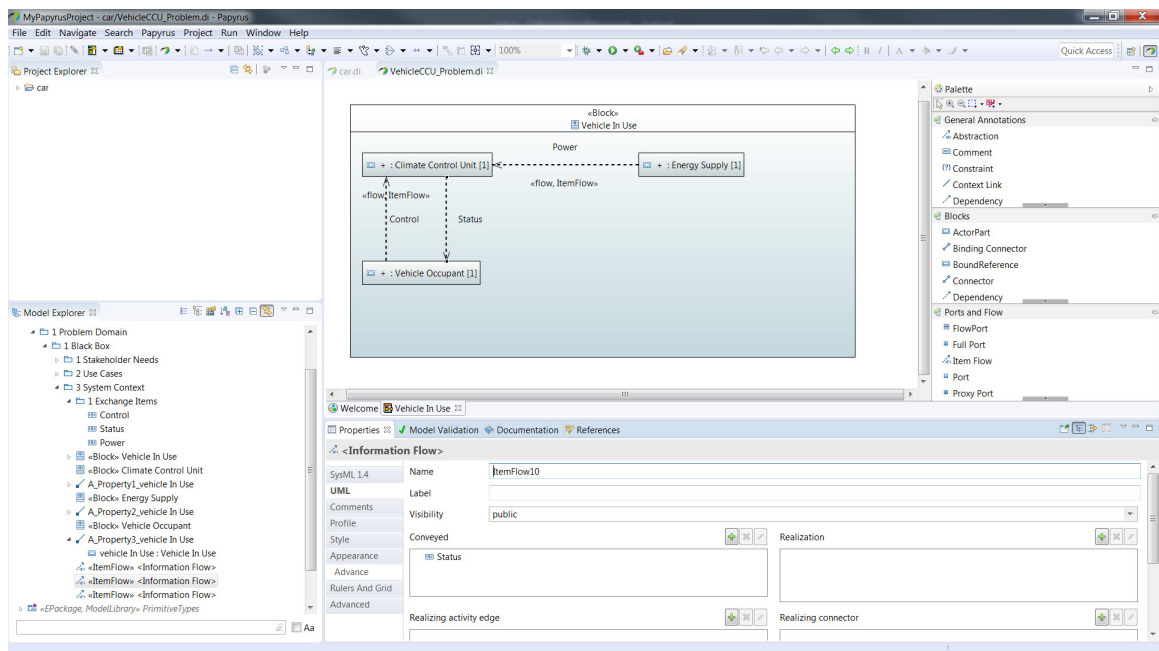

Figure 70: Item Flows
- Follow the same procedures to create the flow for the *Status* signal From the *Climate Control Unit* To the *Vehicle Occupant* and the flow of *Power* From the *Energy Supply* To the *Climate Control Unit*. Your screen should look like (figure 70).